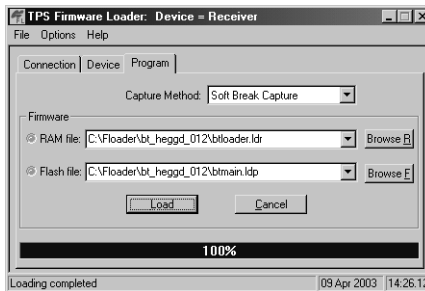

Figure 4-25. Bluetooth Firmware Load Complete
5. Click **Load** and wait until 100% of the files load into your receiver (Figure 4-25).